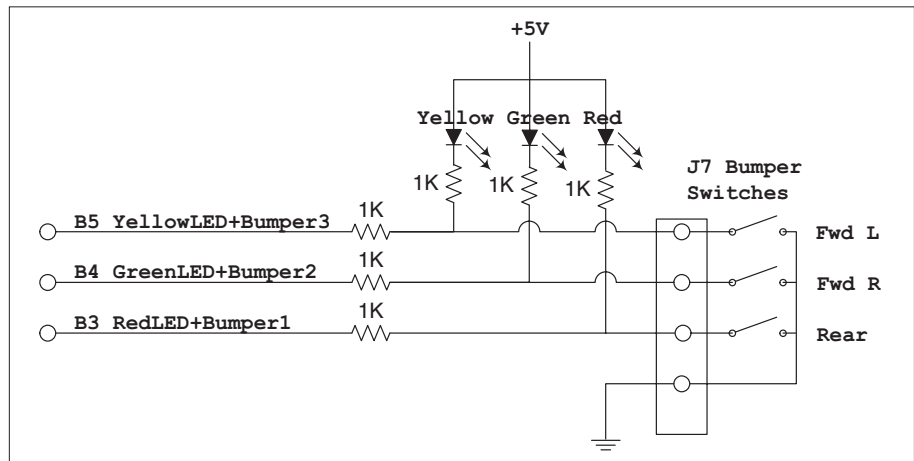

FIGURE 10. LEDs + Bumpers
■ Pins 10-14 (port B5-B3) do double duty, in order to conserve I/O ports (Figure 10). They serve as LED outputs for status reporting and also as inputs for reading the bumper for collisions. The software switches rapidly between output and input mode to make this work; 1K resistors protect the I/O ports and LEDs from short-circuit conditions. The green LED is a heartbeat. It blinks once each time the PIC goes through its main control loop. The yellow LED indicates serial communication. It blinks each time the PIC receives a packet of data from